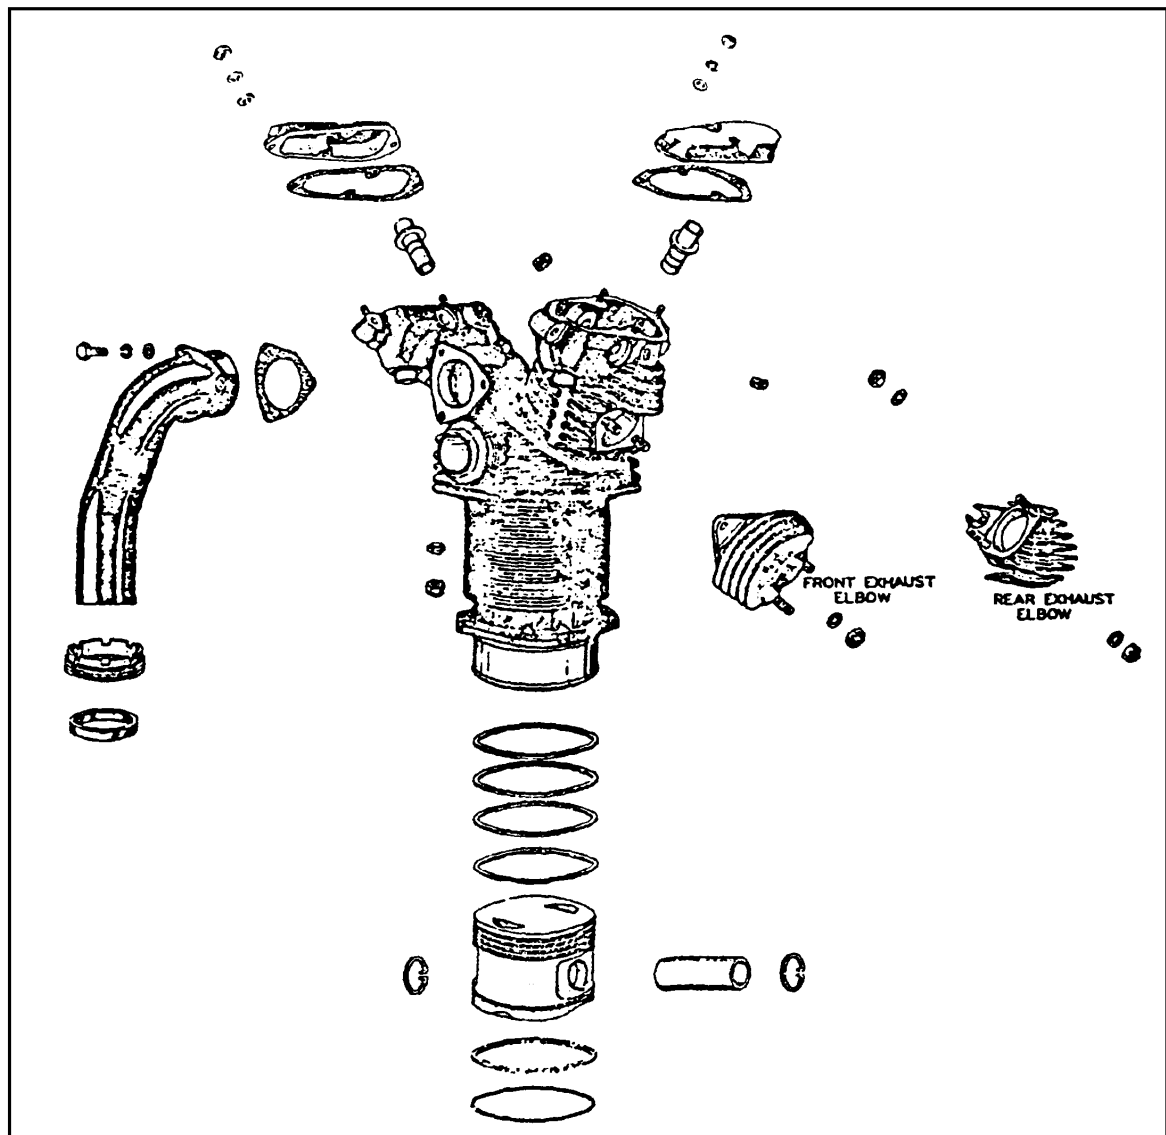

FIGURE 1—Cylinder, Intake Pipe, and Piston
threads of which have been treated with a sealing compound to prevent leakage. The rocker support boxes are cast integrally with the head. (Refer to figure 1.)
**PISTONS** The pistons are full-trunk type, made from aluminum alloy forgings. The head of each piston is ribbed on the under side to increase the strength and improve the cooling. There are five piston ring grooves in each piston, four grooves above the piston pin and one below. The four top grooves bear a single compression ring each, while the lower groove bears a single inverted ring. (Refer to figure 1.)